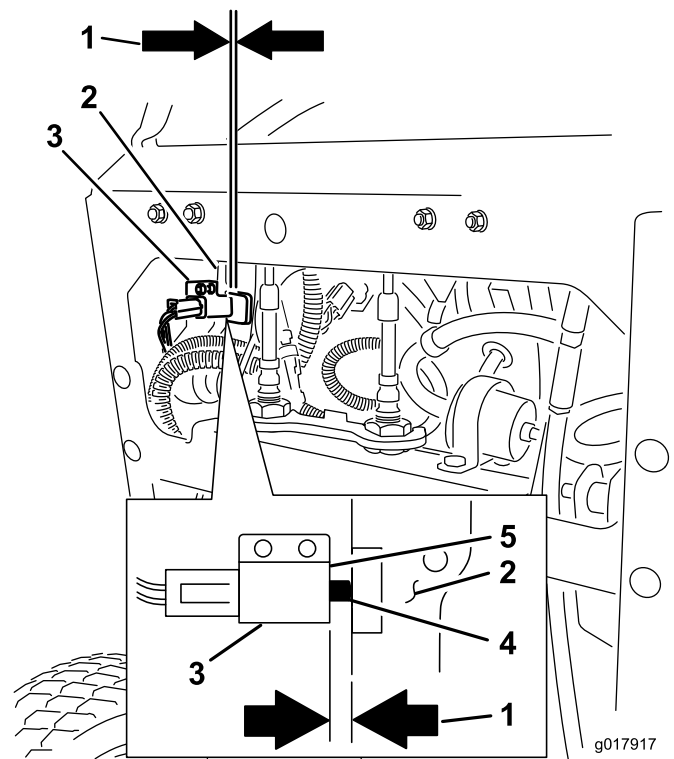

Figure 73
11. After the brake is adjusted, check the lever switch (Figure 73).
12. Check the gap between the brake lever and the face of the switch as shown in Figure 73.